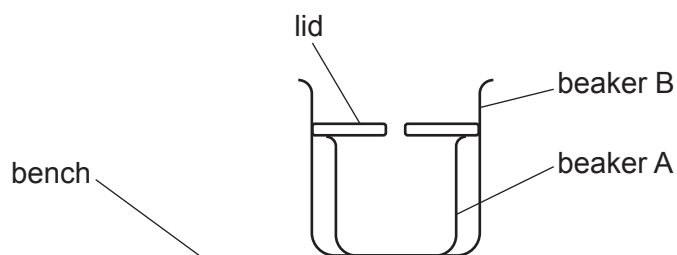

Fig. 2.2
4. Beaker A must be able to fit inside beaker B, leaving a gap between the sides, as shown in Fig. 2.2.